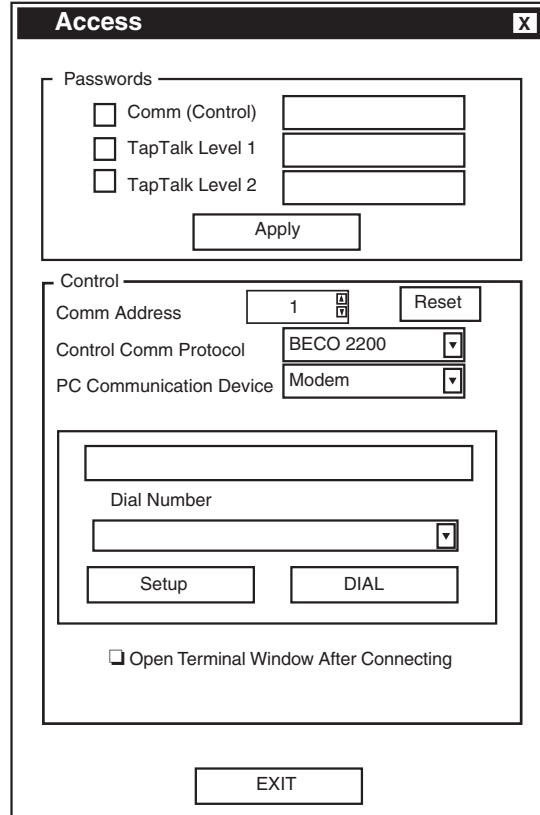

Figure 9-9 Communication Access (Modem) Dialog
2. Select modem from **PC Communication Device** section, GE-2029A will display Figure 9-9, **Communication Access** (Modem) Dialog Screen, then proceed as follows to input information required for modem communication: